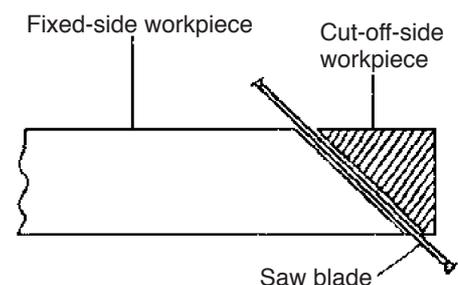

Fig. 12
**⚠ CAUTION: When the workpiece is secured on the left side, the cut-off portion comes to rest on the side of the saw blade as illustrated in Fig. 12. If the handle is raised before the saw blade rotation comes to a complete stop, there is a chance that the cut-off portion of the workpiece could become jammed against the saw blade, causing a hazardous condition. Instruct the customer to ensure without fail that the saw blade comes to a complete stop before attempting to raise the handle.**